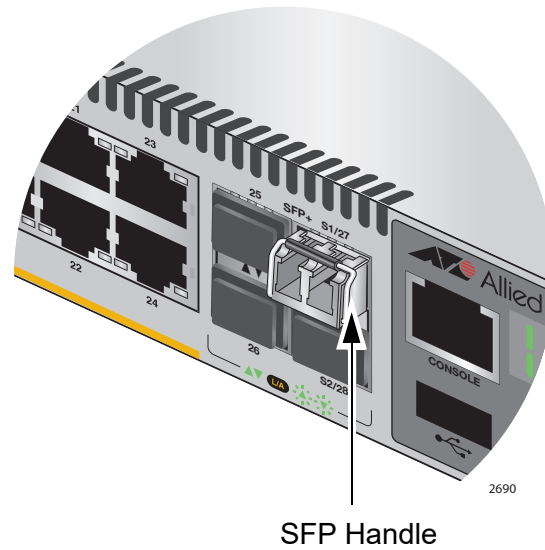

Figure 63. Positioning the Handle in the Upright Position
5. Verify the position of the handle on the transceiver. If the transceiver is in the S1 slot, the handle should be in the upright position, as shown in Figure 63. If the transceiver is in the S2 slot, the handle should be in the down position.